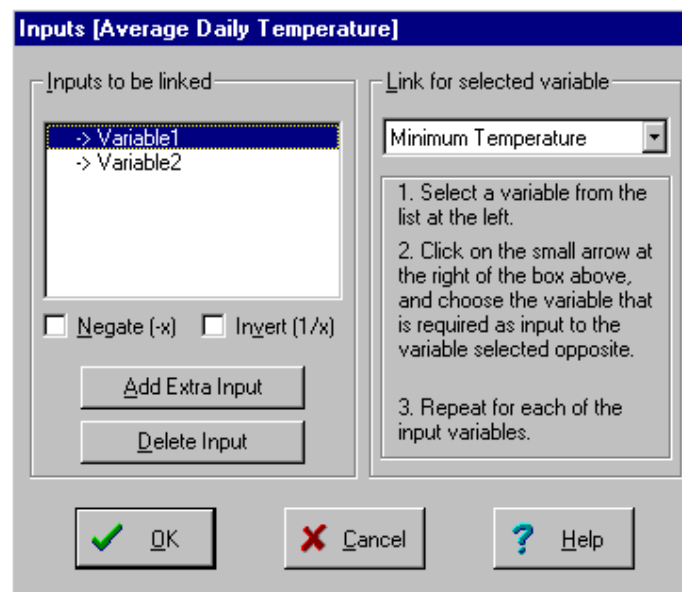

Figure 3-2 “Inputs” dialog for the “Average Daily Temperature” module. Input 1 (Variable1) is shown linked to the Minimum Temperature
4. Select the **“Inputs”** button to obtain the **“Inputs”** dialog (Figure 3-2)